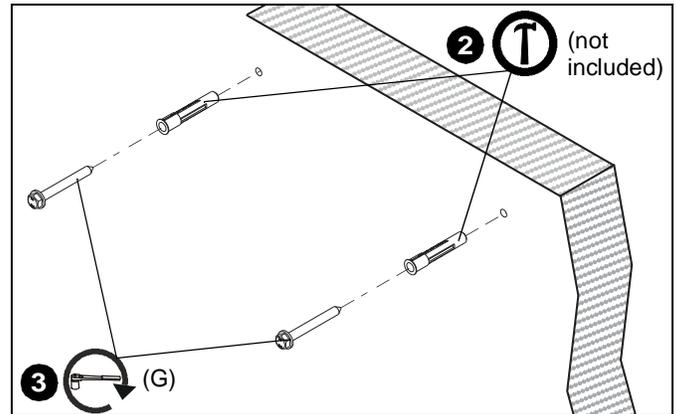

Figure 5
1. **(Landscape installation only):** Insert PSMO2086 strut channel (B) into the wall mount (A) and place over either the:
- the 24" on-center attachment points (1B). (See Figure 5)
2. Install one Fischer UX10x60R anchor (not included) into each pilot hole using a hammer, making sure that the anchor is flush with the wall. (See Figure 5)
3. Use one 5/16" x 3-1/2" lag bolt (G) through the strut channel (B) [landscape installation ONLY], the PSMO2086 into each anchor in wall.